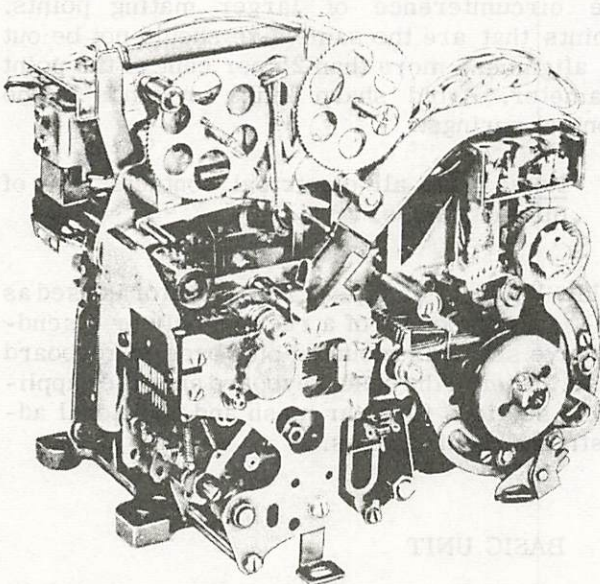

Figure 1 - Typical 35 Typing Reperforator (Left Front View)
1.02 This section contains specific requirements and adjustments for the 35 typing reperforator (Fig. 1). The basic equipment includes selector mechanism, transfer mechanism, eight-level fully perforating punch mechanism, and printing mechanism. The printing mechanism includes letters-figures contacts and magnet and may include print suppression, remote control non-interfering rubout tape feed-out, end of feed-out timing contacts and power drive backspace mechanisms.